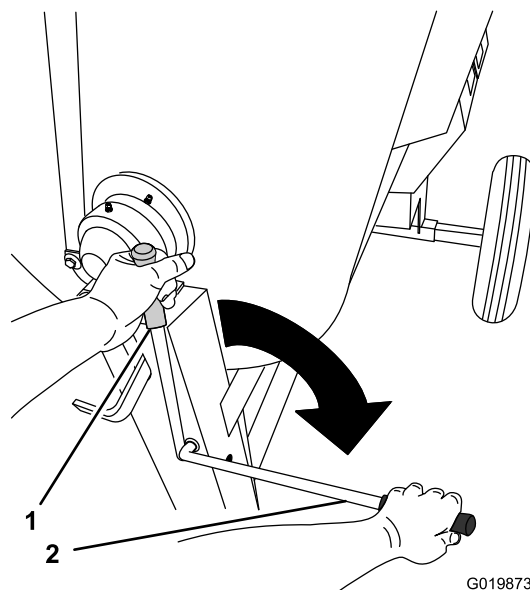

Figure 31
2. Move the clutch lever to the OFF position (Figure 31).
5. Move the clutch lever to the ON position (Figure 31).